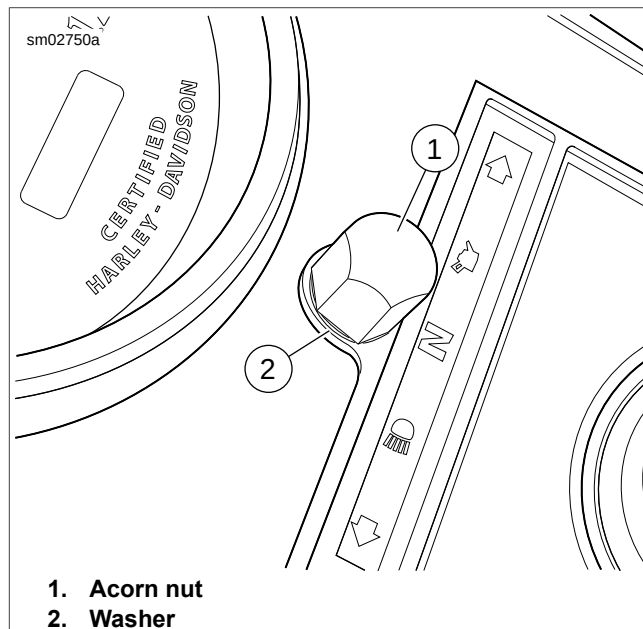

Figure 2-91. Instrument Console
2. See Figure 2-91. Remove acorn nut (1) and washer (2).